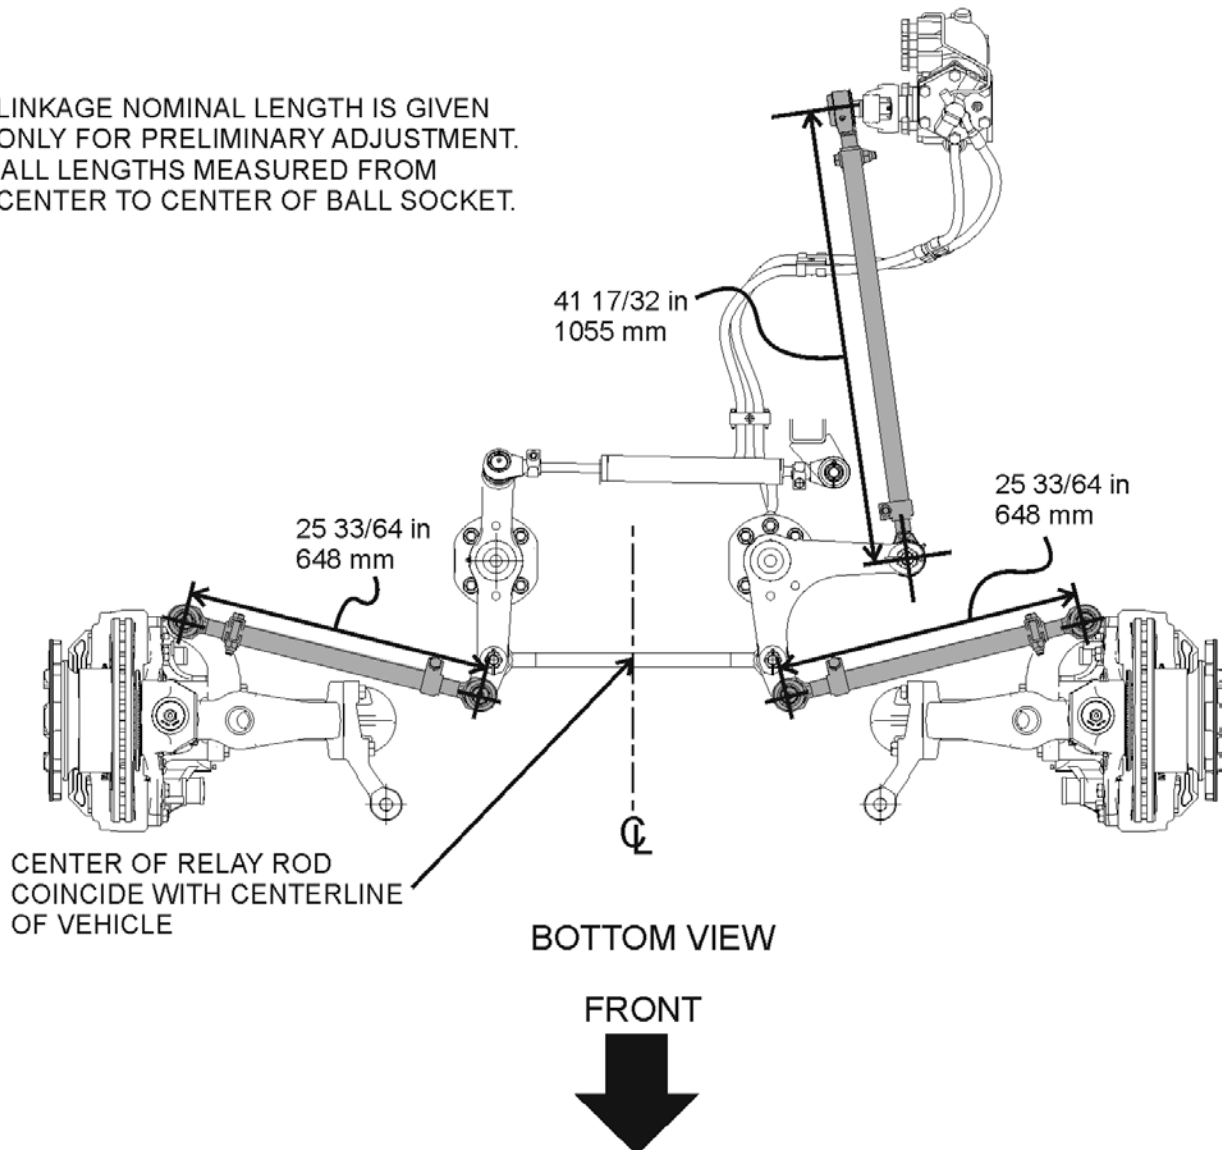

FIGURE 19: STEERING LINKAGE NOMINAL LENGTHS
7. Check if the length of the torque rod is 21 17/64" (540 mm) (FIGURE 19). Check if the length of the relay rod is 23 19/64" (592 mm).